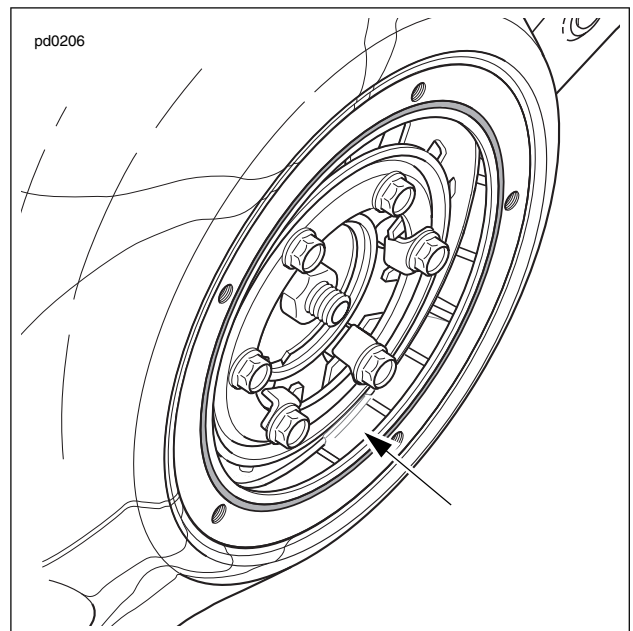

Figure 4-5. Chaincase Lubricant Level
2. See Figure 4-5. The primary chaincase lubricant level is acceptable when lubricant is visible in bottom of chaincase with motorcycle standing upright (not resting on jiffy stand).